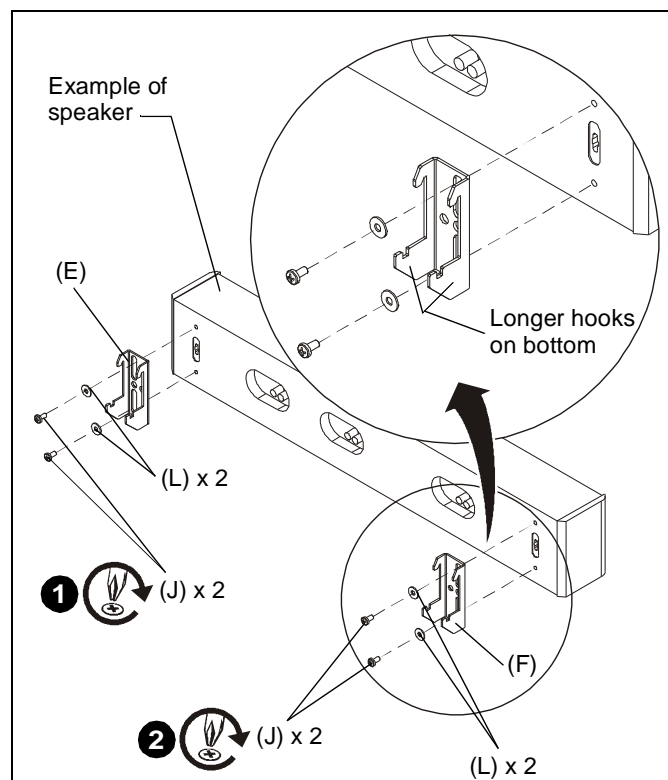

Figure 6
1. Attach one center channel hook (E) to back of speaker (left side) using two 1/4-20 x 1/2" Phillips pan head screws (J) with two 1/4" washers (L). (See Figure 6)
NOTE: Ensure that longer hooks are at bottom of speaker. (See Figure 6)
2. Repeat with other end of speaker and the remaining center channel hook (F). (See Figure 6)